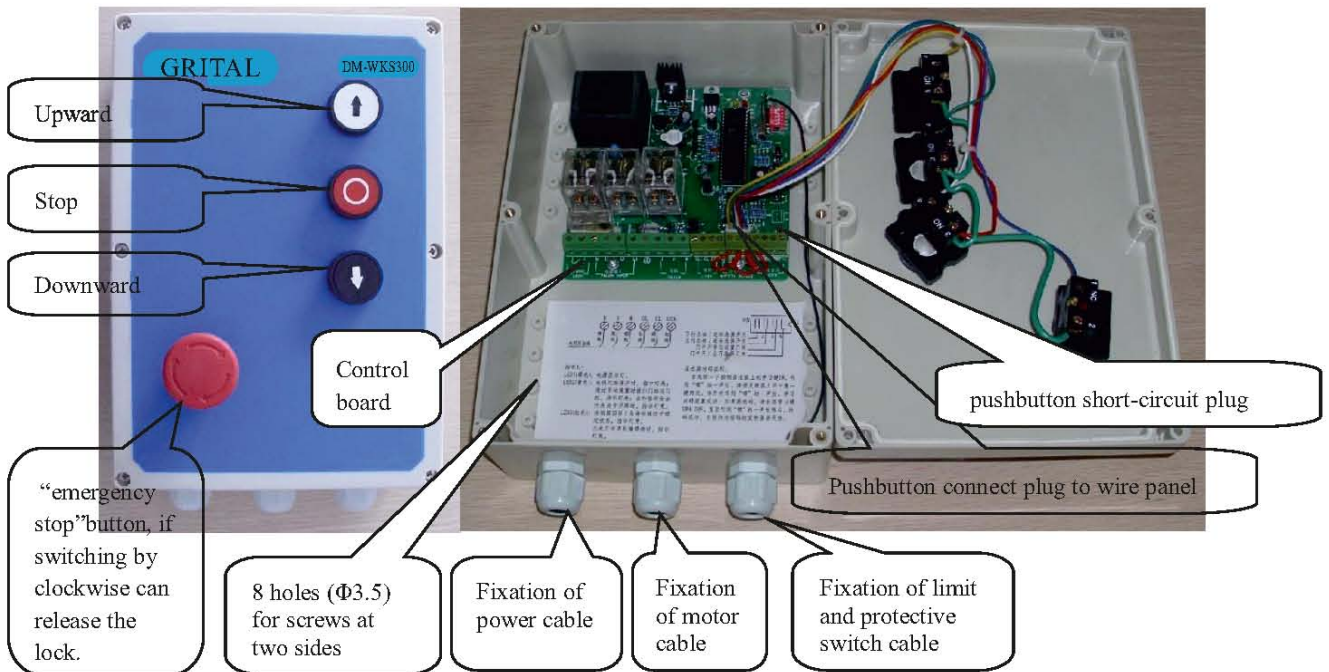

Fig. 6 Schematic diagram for DM 300 control box's structure
3.2.2.1 The "upward", "stop", "downward" and "emergency stop" buttons on control panel control the drive for corresponding operation status; control logic is set according to the principle of "emergency stop" action priority, after "emergency stop" is started, the state is self locked, while other buttons fail to work, the "emergency stop" state can be lifted when the button is switched according to the "emergency stop" button's arrow direction (as is shown in Fig. 6).